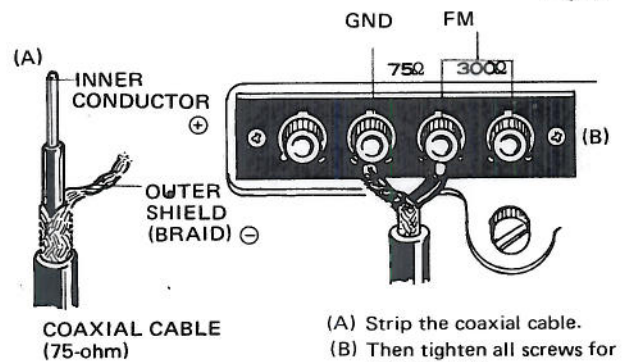

Fig. 6
2. In heavy traffic areas, industrial zones or near high voltage electrical equipment a great deal of interference may enter despite careful antenna selection. In such a case, talk things over with your audio dealer. It may be advisable to use a 75Ω coaxial cable between the antenna and the SX-300. Connect the coaxial cable to the cable terminal as shown in Fig. 6.